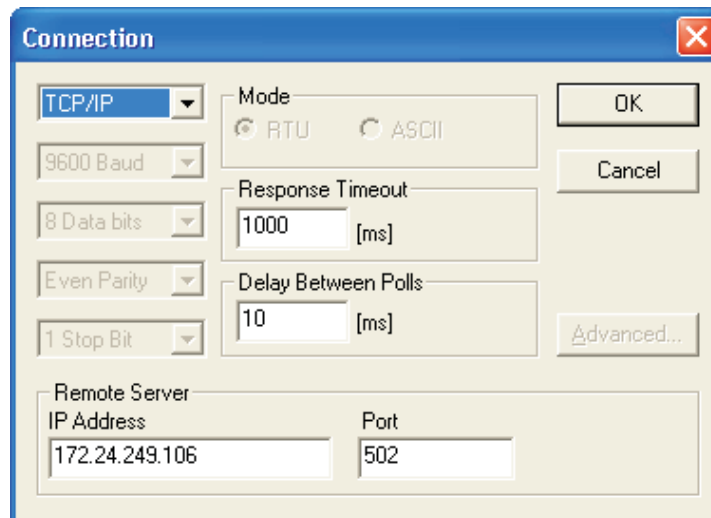

Figure 5. Connection Setup
- (a) Configure the connection setup to use TCP/IP and provide IP address of S2E module and Port 502 (see Figure 5).